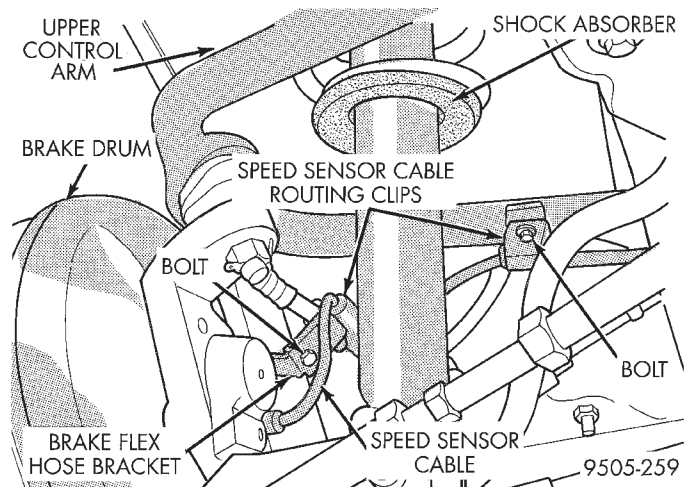

Fig. 7 Rear Wheel Speed Cable Routing And Attachment
- (1) Raise vehicle on jackstands or centered on a frame contact type hoist. See Hoisting in the Lubrication and Maintenance section of this manual, for the required lifting procedure to be used for this vehicle.
- (2) Remove the rear wheel and tire assembly from the vehicle.
- (3) Remove rear brake drum from rear hub and bearing assembly.
- (4) If vehicle is equipped with antilock brakes remove the rear wheel speed sensor from the brake support plate and brake flex hose routing bracket (Fig. 7).
(7) Attach routing bracket for speed sensor cable to brake flex hose bracket and securely tighten attaching bolt (Fig. 7).
(8) Install park brake cable into brake support plate. Ensure cable retainer is securely holding cable to support plate. Then connect park brake cable to park brake lever on brake shoe.
(9) Install rear hub and bearing assembly on knuckle and install hub and bearing assembly retaining nut. Tighten retaining nut to a torque of 250 N·m (185 ft. lbs.).
(10) Install the brake drum on the hub/bearing assembly.
(11) Install wheel and tire assembly on vehicle. Tighten the wheel mounting stud nuts in proper sequence until all nuts are torqued to half specification. Then repeat the tightening sequence to the full specified torque of 129 N·m (95 ft. lbs.).
(12) Lower vehicle.
(13) Check and reset rear wheel alignment to specifications if required. Refer to Front And Rear Toe